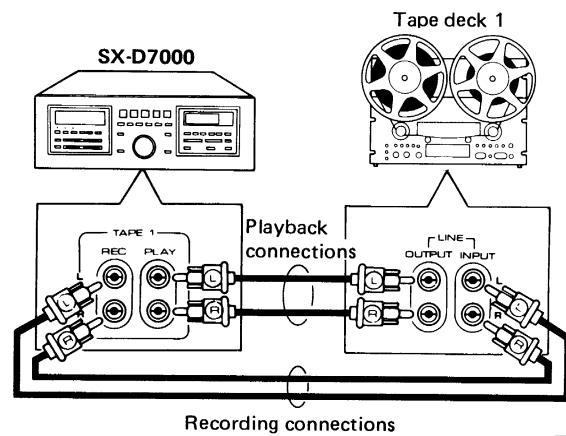

Fig. 4
**TAPE DECK CONNECTIONS (Fig. 4)**